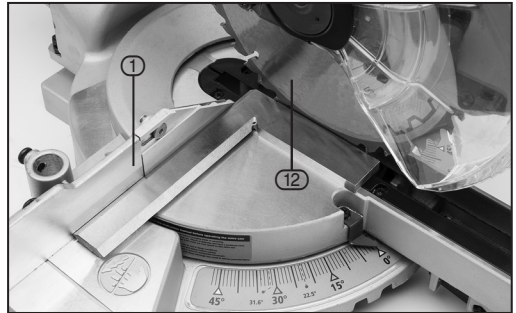

FIG. 7
6.7 CHECKING THE FENCE TO BLADE ALIGNMENT – FIGS.7 – 8